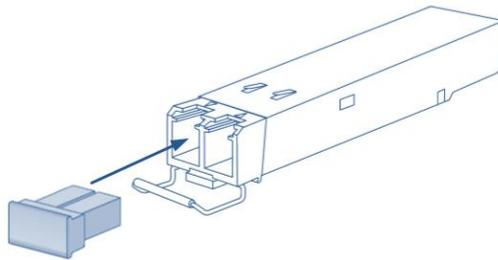

Figure 10 : SFP+ Module with bale clasp open
5. Insert the clean dust covers into the module, as shown in Figure 10.